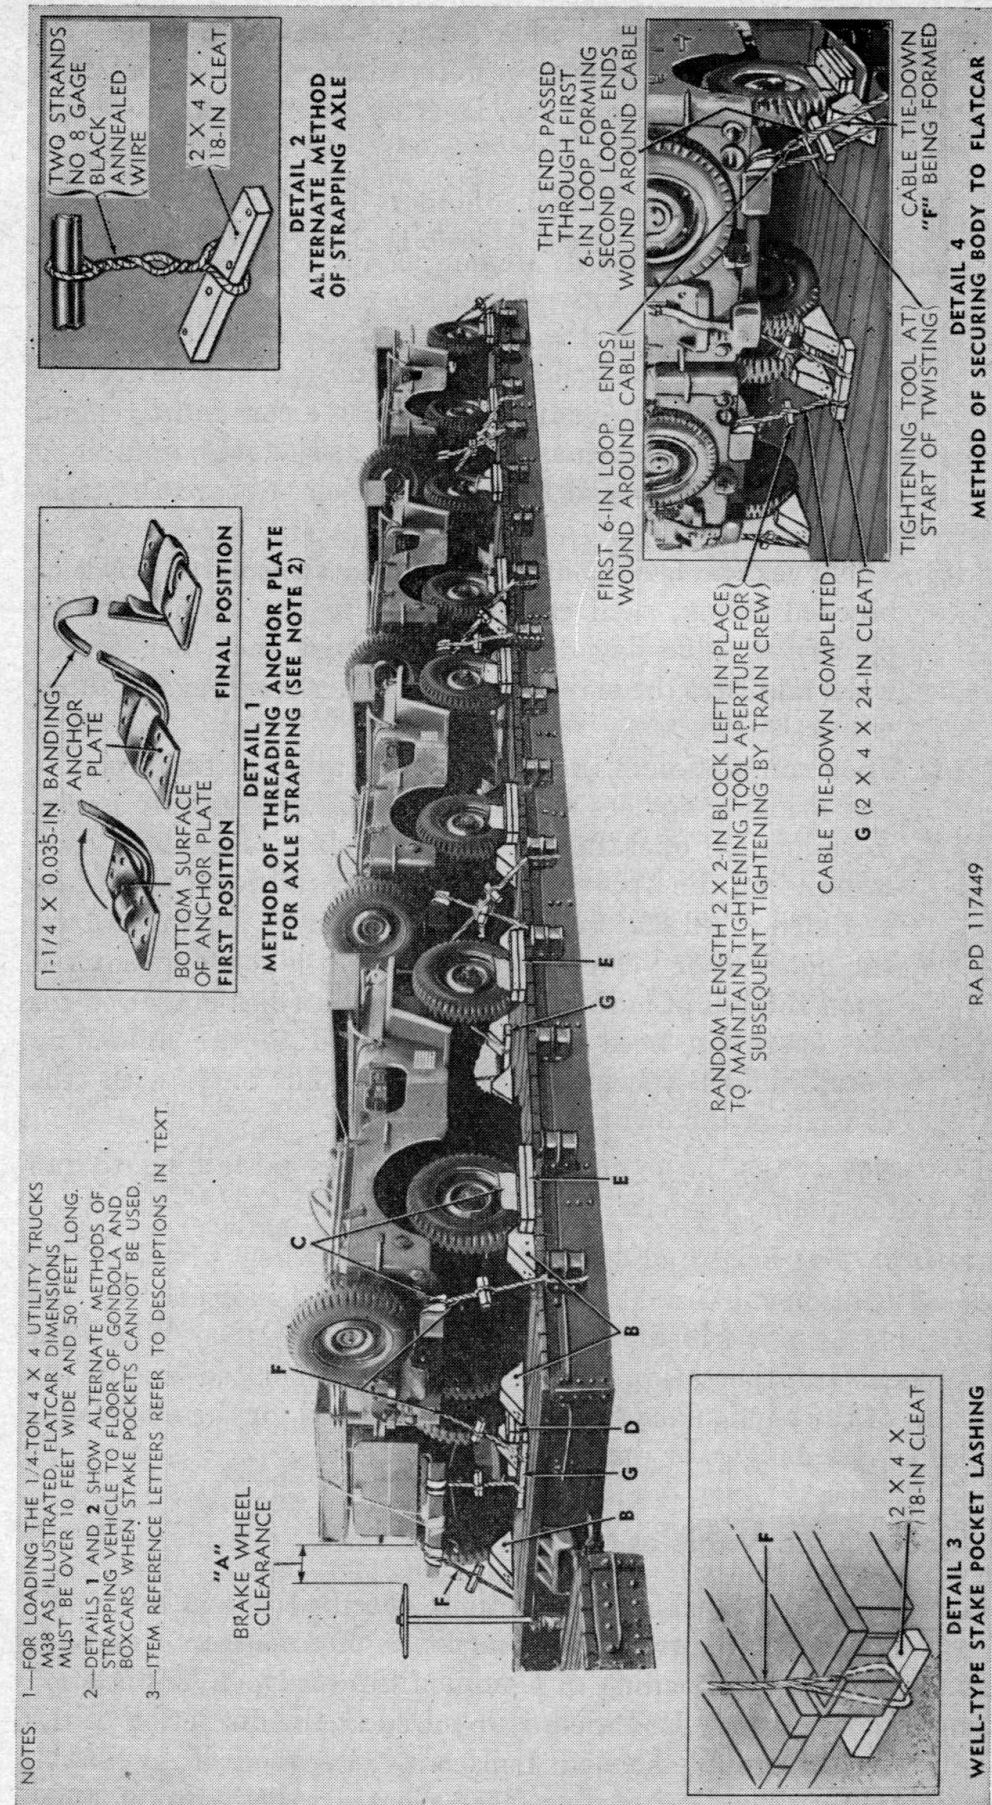

Figure 76. Blocking the 1/4-ton 4 x 4 utility truck M38 for rail shipment.
letters given below refer to the details and locations as shown in figure 76.
**b. BRAKE WHEEL CLEARANCE "A."** Load vehicles on cars with a minimum clearance of at least four inches below and six inches above, behind, and to each side of the brake wheel (fig. 76). Increase clearance as much as is consistent with proper location of load.